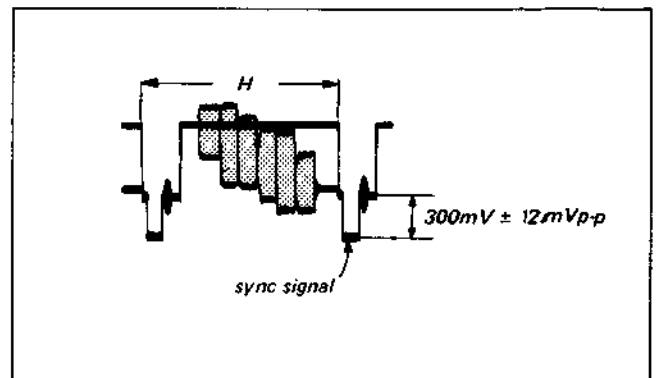

Fig. 4-4-4. Sync AGC adjustment
- (1) Supply the VTR with the colour bar signal and set up the E-E mode.
- (2) Connect the oscilloscope to pin 24 of IC1.
- (3) Adjust RV1 so that the sync signal level is  $300\text{mV} \pm 12\text{mVp-p}$ . (See Fig. 4-4-4.)